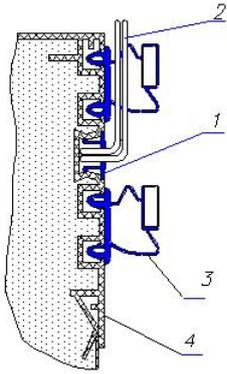
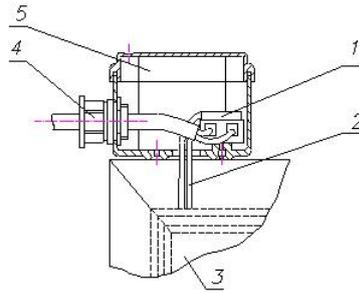
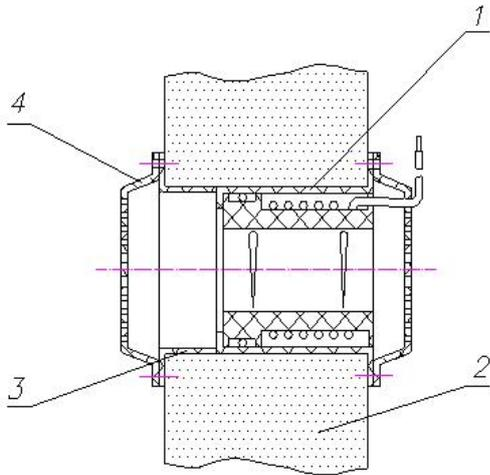

Fig.4 Door WEH Installation
Fig.5 Door WEH connection
Fig.6 Compensation valve installation
If necessary, the cold room is additionally sealed by a plastic sealant that is included in the set of delivery. When the KXH type rooms are installed, it is necessary to set a WEH (electric- heated wire) of a door (fig. 4, fig. 5) and a compensation valve (fig. 6) that are supplied at option.
- remove the profile, item.1 (Fig. 4), insert the WEH in the door profile slot (Item 4), lead the wires through the holes made in the profile, Item 1, and in the soft insert, Item 3, and connect these to the terminals of the junction box, Item 5 (Fig. 5).
When the compensation valve is installed, hole \varnothing 65 mm should be drilled in the side panel. Perform the installation in compliance with Fig. 6. Never place the valve in the upper part of the panel opposite the monoblock unit.